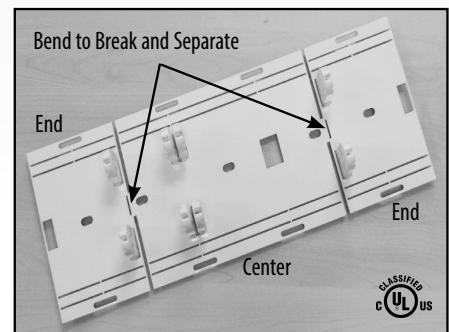

Figure 1. Preparing the Fixture Bracket Socket Plates for Installation.
4. For 8-foot strip-light fixtures, the Fixture Bracket Kit Socket Plates are divided into three (3) sections; two (2) end sections and one (1) center section. Bend the end and center sections on the socket plates back and forth until they separate. Follow this same procedure for the opposite end of the center section. See Figure 1.